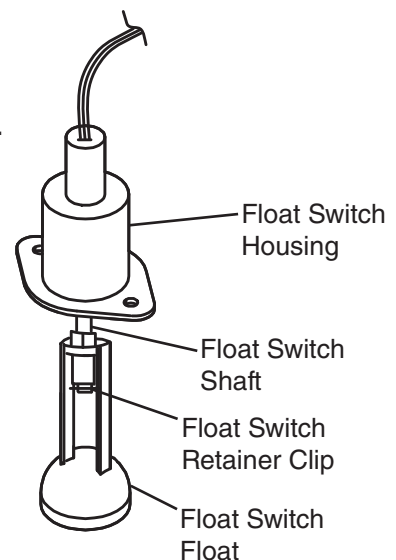

Fig. 13
- 6) Remove the retainer clip from FS shaft, then remove the float. Be careful not to damage or lose the retaining clip when removing it. See Fig. 13.